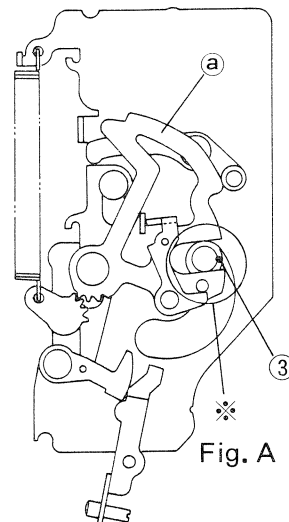
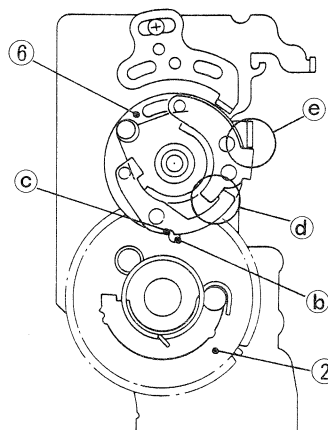

Fig. 47
Fig. 48
2. Install S2 gear (2) so that the charge pin (3) of S2 gear (2) (Fig. 47) fits M charge cam (a) (Fig. 47) (in Fig. A), and align hole mark (b) (Fig. 48) with notch c mark, and at the same time, engage S2 gears (2) (3) with the clutch gears in the position where each lever at parts (a) (d) contacts each other for reassembly.